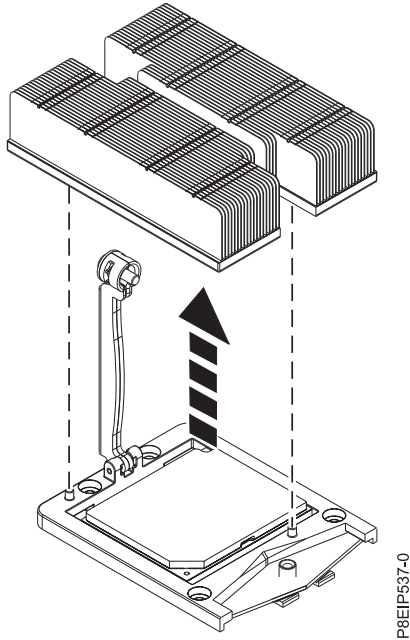

Figure 51. Removing the heat sink
5. Grip the heat sink and remove it by lifting straight up as shown in Figure 51 on page 49.